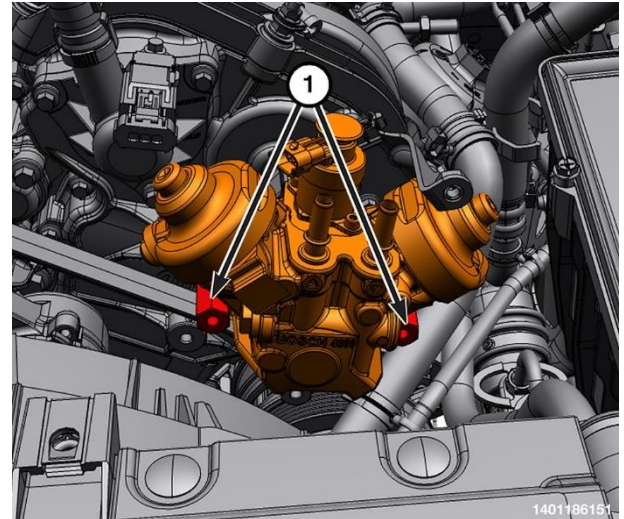

Figure 193 – HPFP Upper Bolts
36. Remove the fuel injection pump upper bolts (1) from the fuel injection pump (Figure 193).
48. Remove the Tool, High Pressure Pump Installation VM.10345 and install the high-pressure fuel injection pump upper bolts (Figure 193).